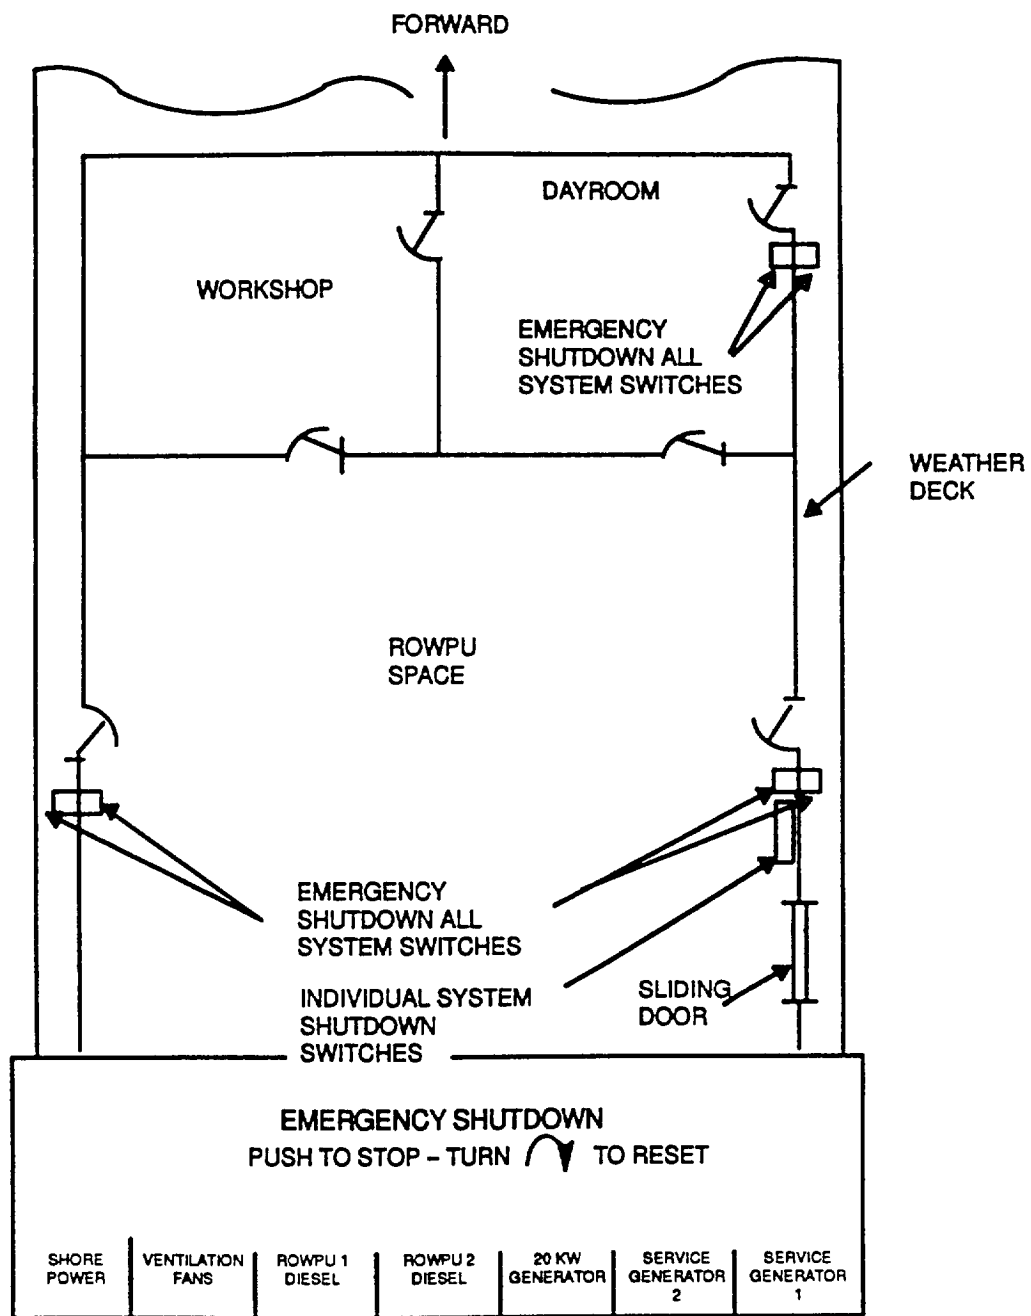

Figure 2-3. Location of Controls for Emergency Shutdown Systems
Emergency system shutdown red buttons are on the ROWPU space starboard bulkhead just aft of the personnel door. These seven emergency system shutoff buttons (Figure 2-3) control shore power, ventilation systems, ROWPU 1 diesel high pressure (HP) pump, ROWPU 2 diesel HP pump, ship auxiliary generator (SAG), ship service generator 2 (SSG2), and ship service generator 1 (SSG1).